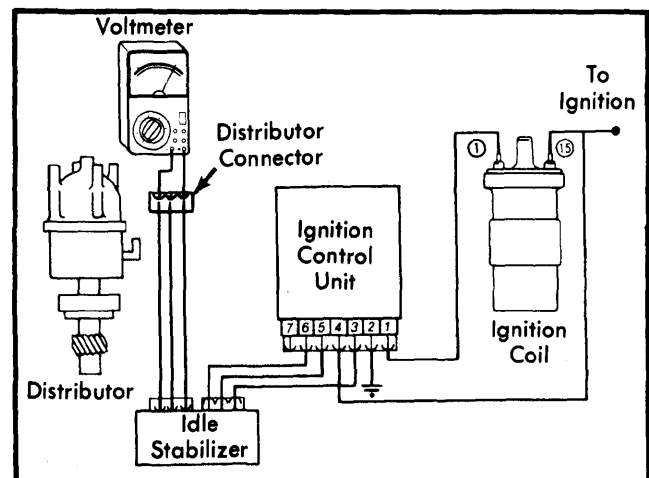

Fig. 4 Voltmeter Hookup for Distributor Voltage Check
- 1) Remove connector from distributor and connect voltmeter leads to each of the two outer terminals. See Fig. 4. Turn ignition switch "ON". Battery voltage should be read on voltmeter.